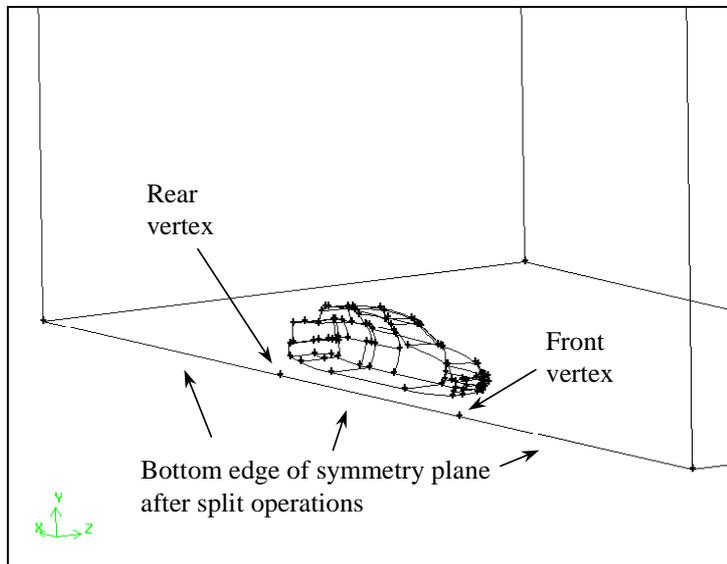

Figure 6-13: Bottom edge of symmetry plane is split into three edges
- c) Use the mouse to rotate the model and zoom in on the sedan and the edge at the bottom of the symmetry plane (see Figure 6-13).
The edge is split into two parts and a vertex is created near the front bumper of the sedan, as shown in Figure 6-13.
The edge will be split and a second vertex created near the rear bumper of the sedan, as shown in Figure 6-13.